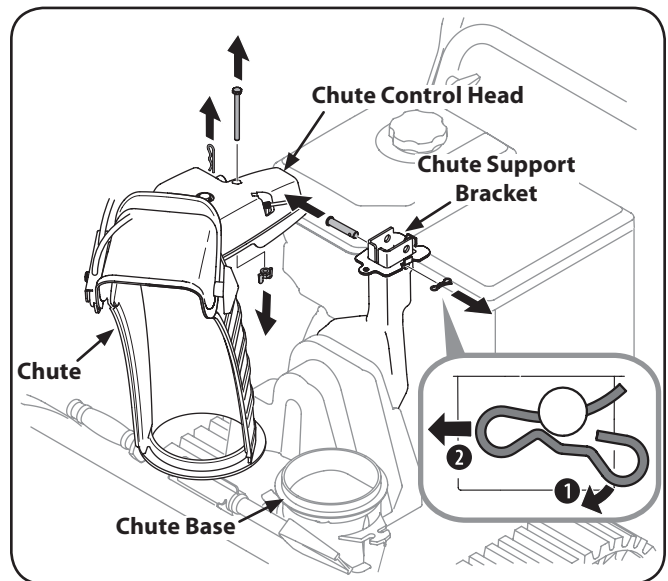

Figure 3-3
1. Remove cotter pin, wing nut and hex screw from chute control head. Remove clevis pin and bow-tie cotter pin from chute support bracket. See Figure 3-3.
8. Finish securing chute control head to chute support bracket with wing nut, clevis pin, and bow-tie cotter pin removed in step 1. See Figure 3-3.